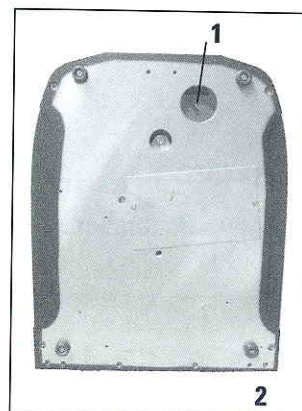

Fig. 13.1
5. Using both hands at the sides (Fig. 13.1), grasp the bottom of the instrument and carefully place it on a suitable laboratory table.